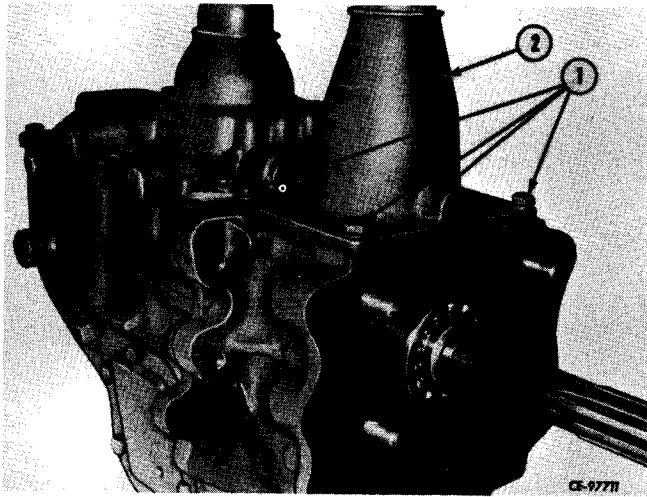

Figure 4-17
Remove cap screws (1, Fig. 4-17) and remove control housing (2) from the reverse housing.